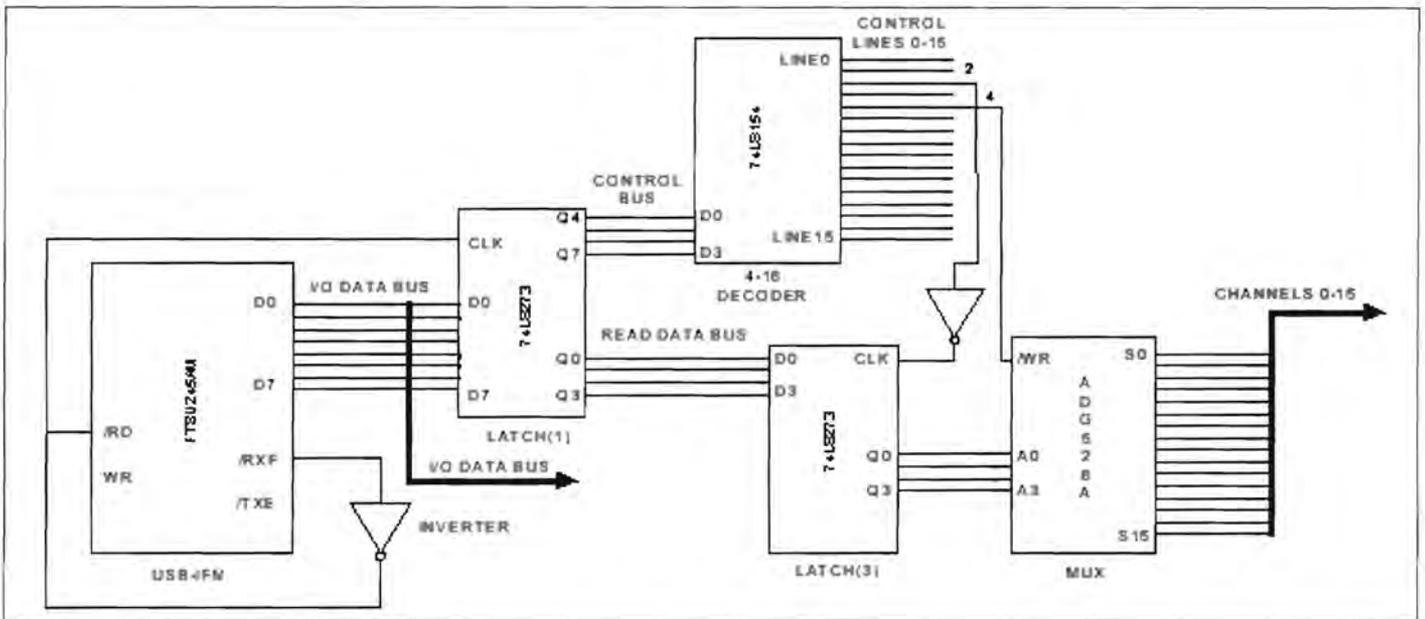

Figure 8: Interfacing USB-IFM to MUX
The full logic circuit design for interfacing USB-IFM to the MUX is shown in **Figure 8**. The 4-bit Read Data Bus and two Control Lines of the basic USB logic interface circuit (see **Figure 5**) are used. The 4-bit Read Data Bus is connected to Latch (3), whose outputs go to the input bus A0-A3 of the MUX. Control Lines (2) and (4) activate Latch (3) and the MUX, respectively.